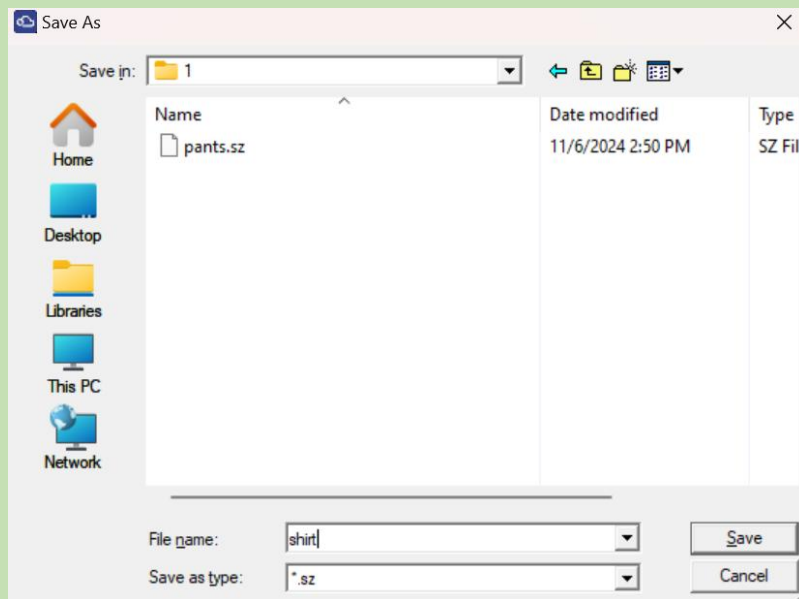

Figure 3-5
5. Save As: After opening the saved size chart part, save it as a size chart of another file. **Save As** (Figure 3-5)